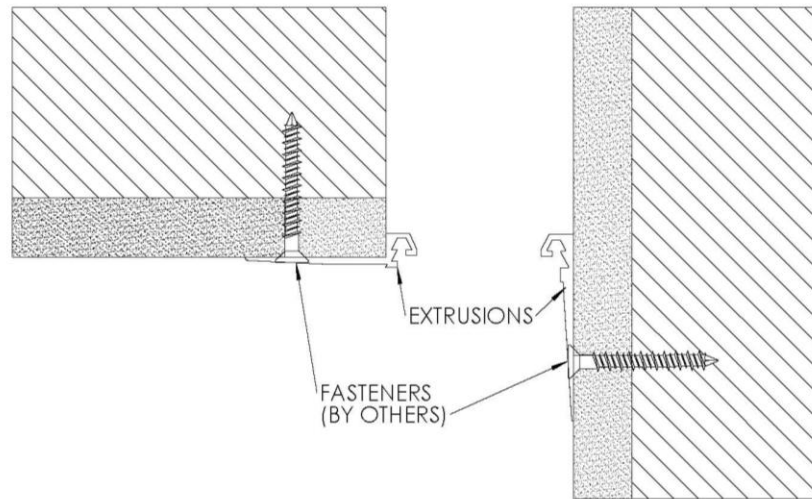

FIGURE 4
1. Position aluminum extrusions in the expansion joint as shown and attach with appropriate fasteners (by others) for the substrate. 18" on center. Make sure the corner extrusion is installed so the extrusions channels are level with each other (stagger seams, as necessary). **See Figure 4**